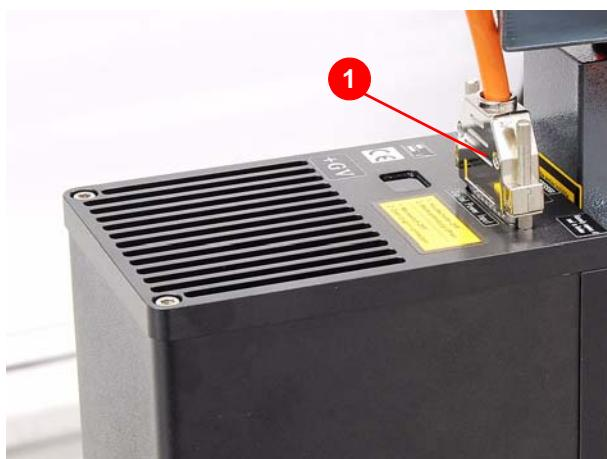

Figure 7.14 Galvo head connecting plug
1. Loosen and remove the connecting plug of the galvo head (1) (Figure 7.14).